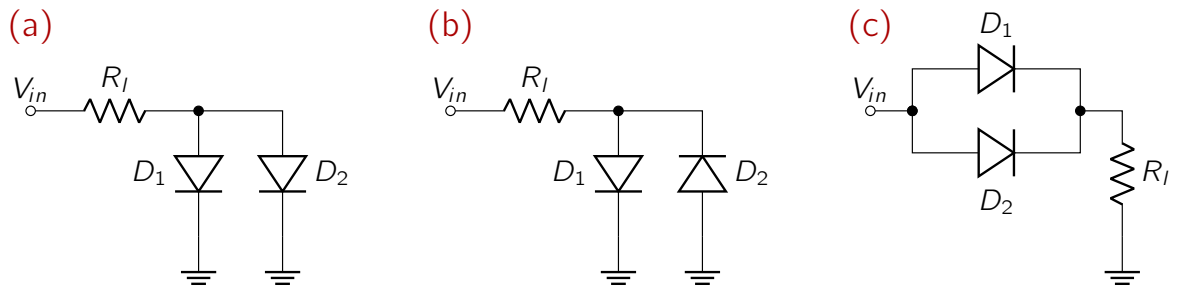

Fig. 3.32: [Exercise 01] Different diode circuits.
1. Compute the voltage and current across the load resistor R_L in Figure 3.32 for the following: (a) $V_{in} = 1.0V$; (b) $V_{in} = -1.5V$. Assume the following parameters for the diodes: $I_s = 10^{-12}A$, $n = 1$, $V_T = 25.85mV$, and $R_I = 1k\Omega$.